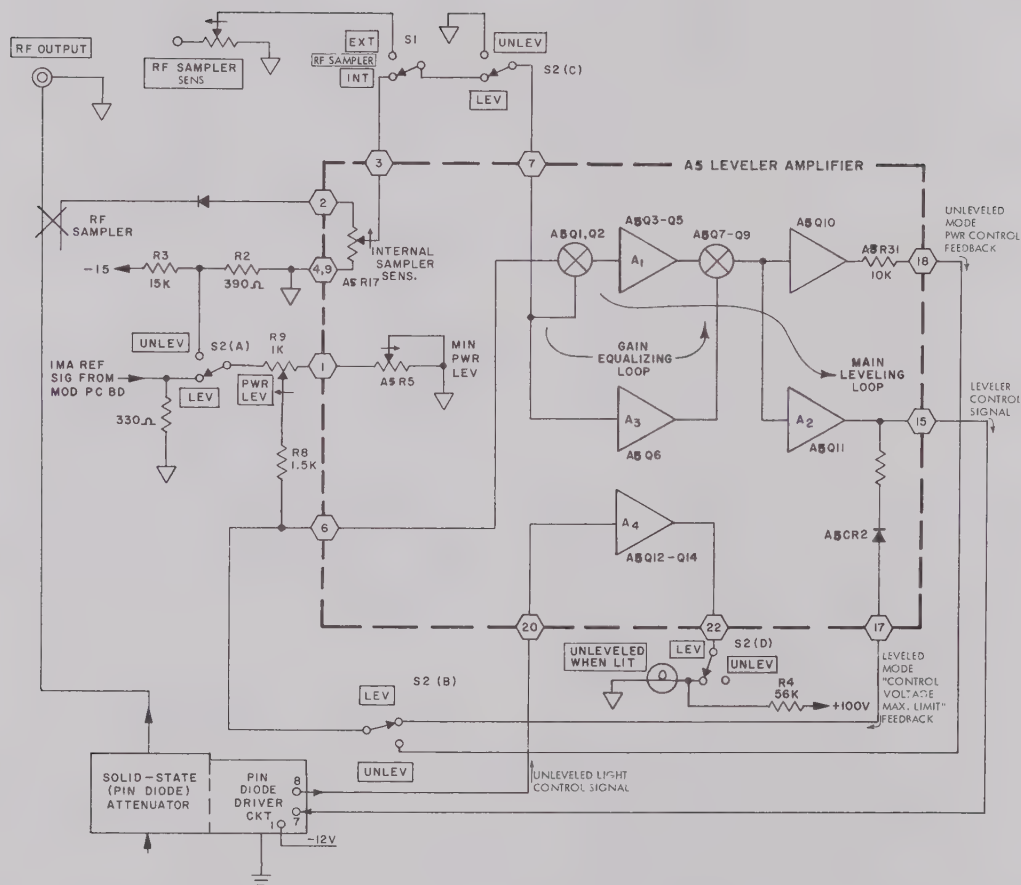

FIGURE 4-4. SIMPLIFIED DIAGRAM OF RF OUTPUT AND LEVEL CONTROL CIRCUITS
4.4 DETAILED THEORY OF A5 LEVELER-AMPLIFIER (See Figure 4-4 and Schematic 900933).
4.4.3 UNLEVELED OPERATION. To provide power level adjustment in the UNLEVELED mode, the dc voltage developed by the RF OUTPUT control is amplified to allow direct control of the PIN attenuator over its full range (instead of comparing the rf output to a reference to derive the attenuator bias). The dc voltage amplification is provided by the Leveler-Amplifier circuit, with the necessary circuit changes made by the RF OUTPUT switch as shown in Figure 4-4.